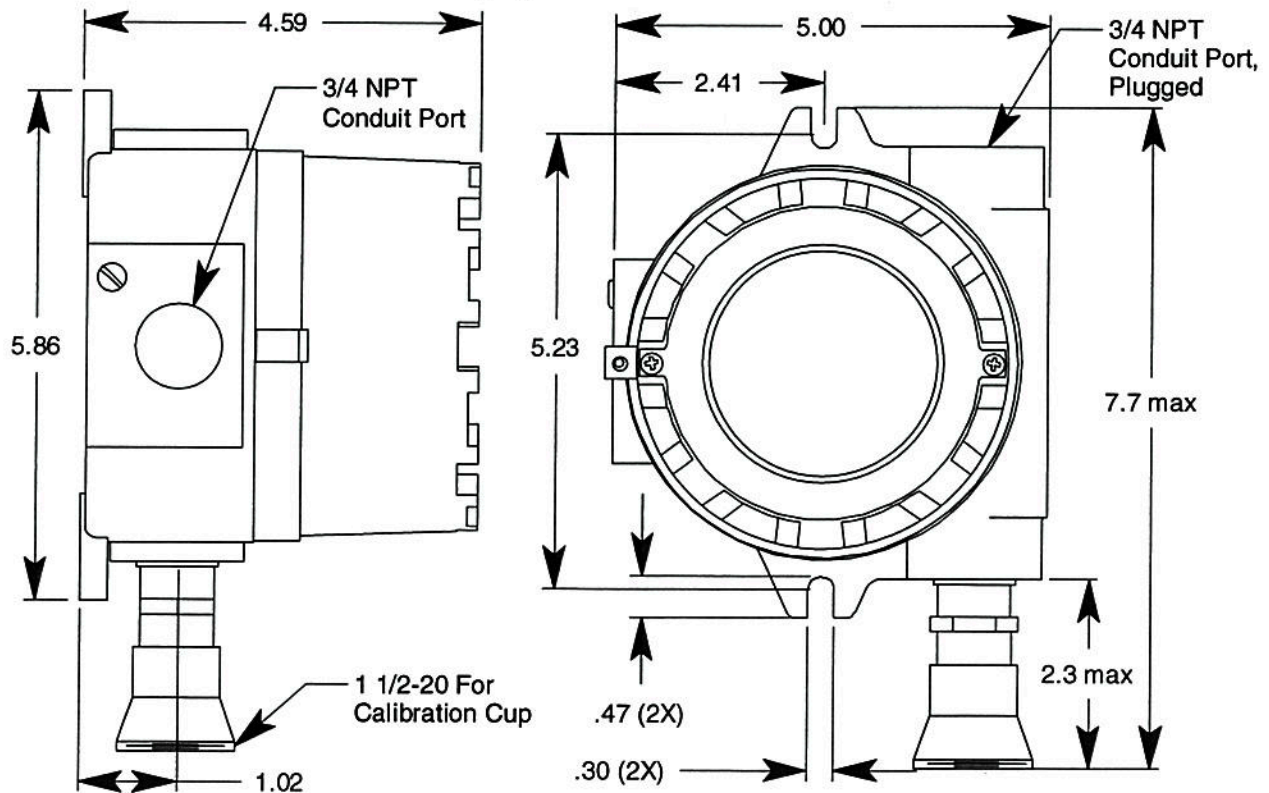

Figure 11: Outline & Mounting Dimensions, Catalytic LEL
2. At the monitoring site, use #10 screws through the junction box's two mounting holes to secure the junction box to a vertical surface. Figure 11 - Figure 16 show the outline and mounting dimensions for each version of the M2A. Mount the M2A with the detector facing down as shown in the following figures.